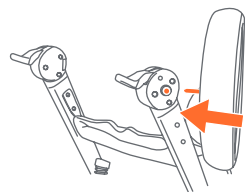

Fig. 2a
- 2) • Lean the stroller forward and press the rear wheel post into the rear frame hub until it clicks into place (Fig. 2a).